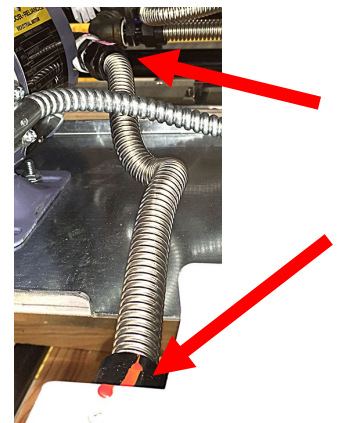

Figure 2
5. Use a 1-1/16" crows foot wrench to remove the flex line between the pump and female pick up bracket (see Figure 2).